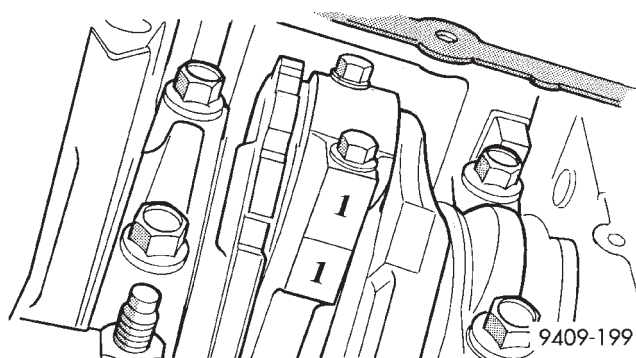

Fig. 78 Identify Connecting Rod to Cylinder—Typical
(2) Mark connecting rod and bearing cap positions using a permanent ink marker or scribe tool (Fig. 78).